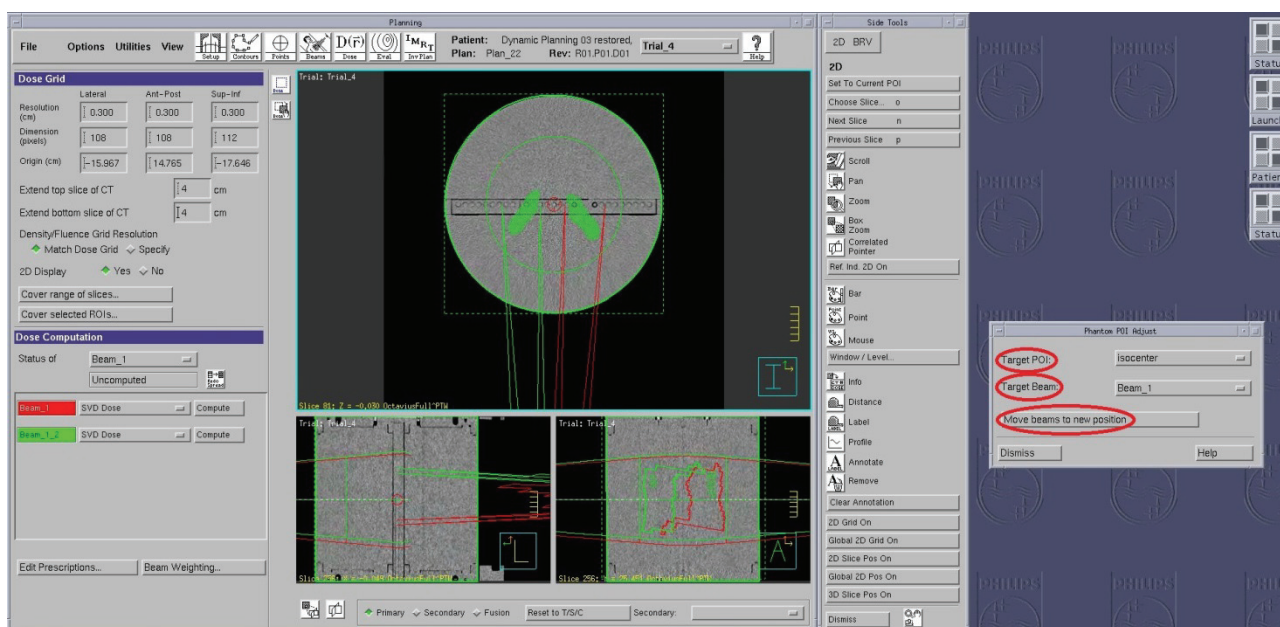

Fig. 4.6 Phantom POI Adjust window.
2. The **Phantom POI Adjust** window appears (Figure 4.6). Use this window to align the coordinate system of the patient and phantom plans. In particular, after selecting the trial of interest: